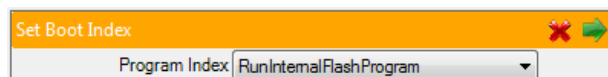

Figure 34: Set Boot Index telecommand
10. After this operation is finished, return to the **Bootloader** tab. In the **Set Boot Index** box select the **RunInternalFlashProgram** as the program index (Figure 34) and press the transmit button.